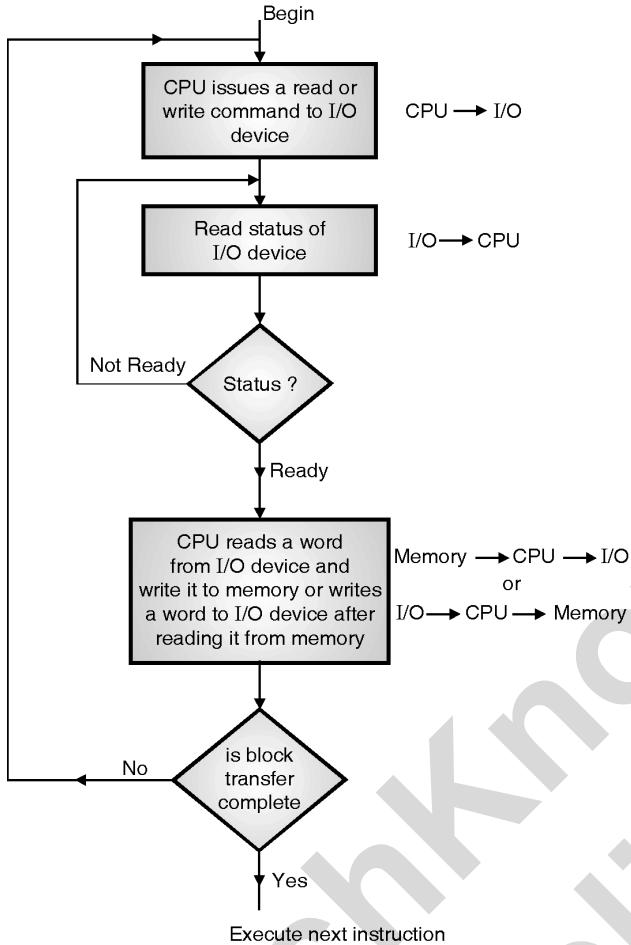

Fig. 11.13.1 : Transferring a block of data using programmed Input/output
- Fig. 11.13.1 gives a flowchart for transferring a block of data.